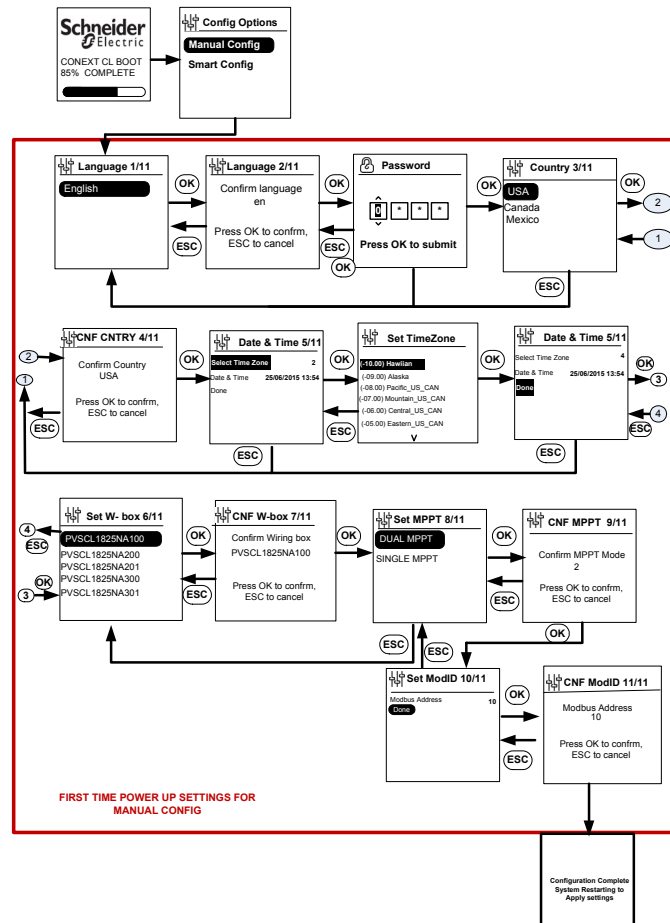

Figure 1-16 Configuration Info screen
- s) Once firmware is upgraded successfully the inverter DUI shows the first time configuration screen. User needs to configure the inverter appropriately as shown in Figure 1-16 on page 1–13. Once configured, the inverter will reboot and be ready for operation.